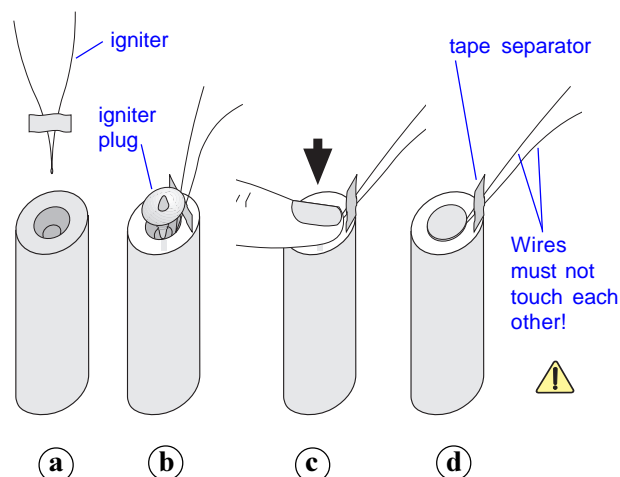

Figure 3
2. Insert the igniter into the rocket engine and spread the wires apart, leaving the paper separator in place (Figure 3).